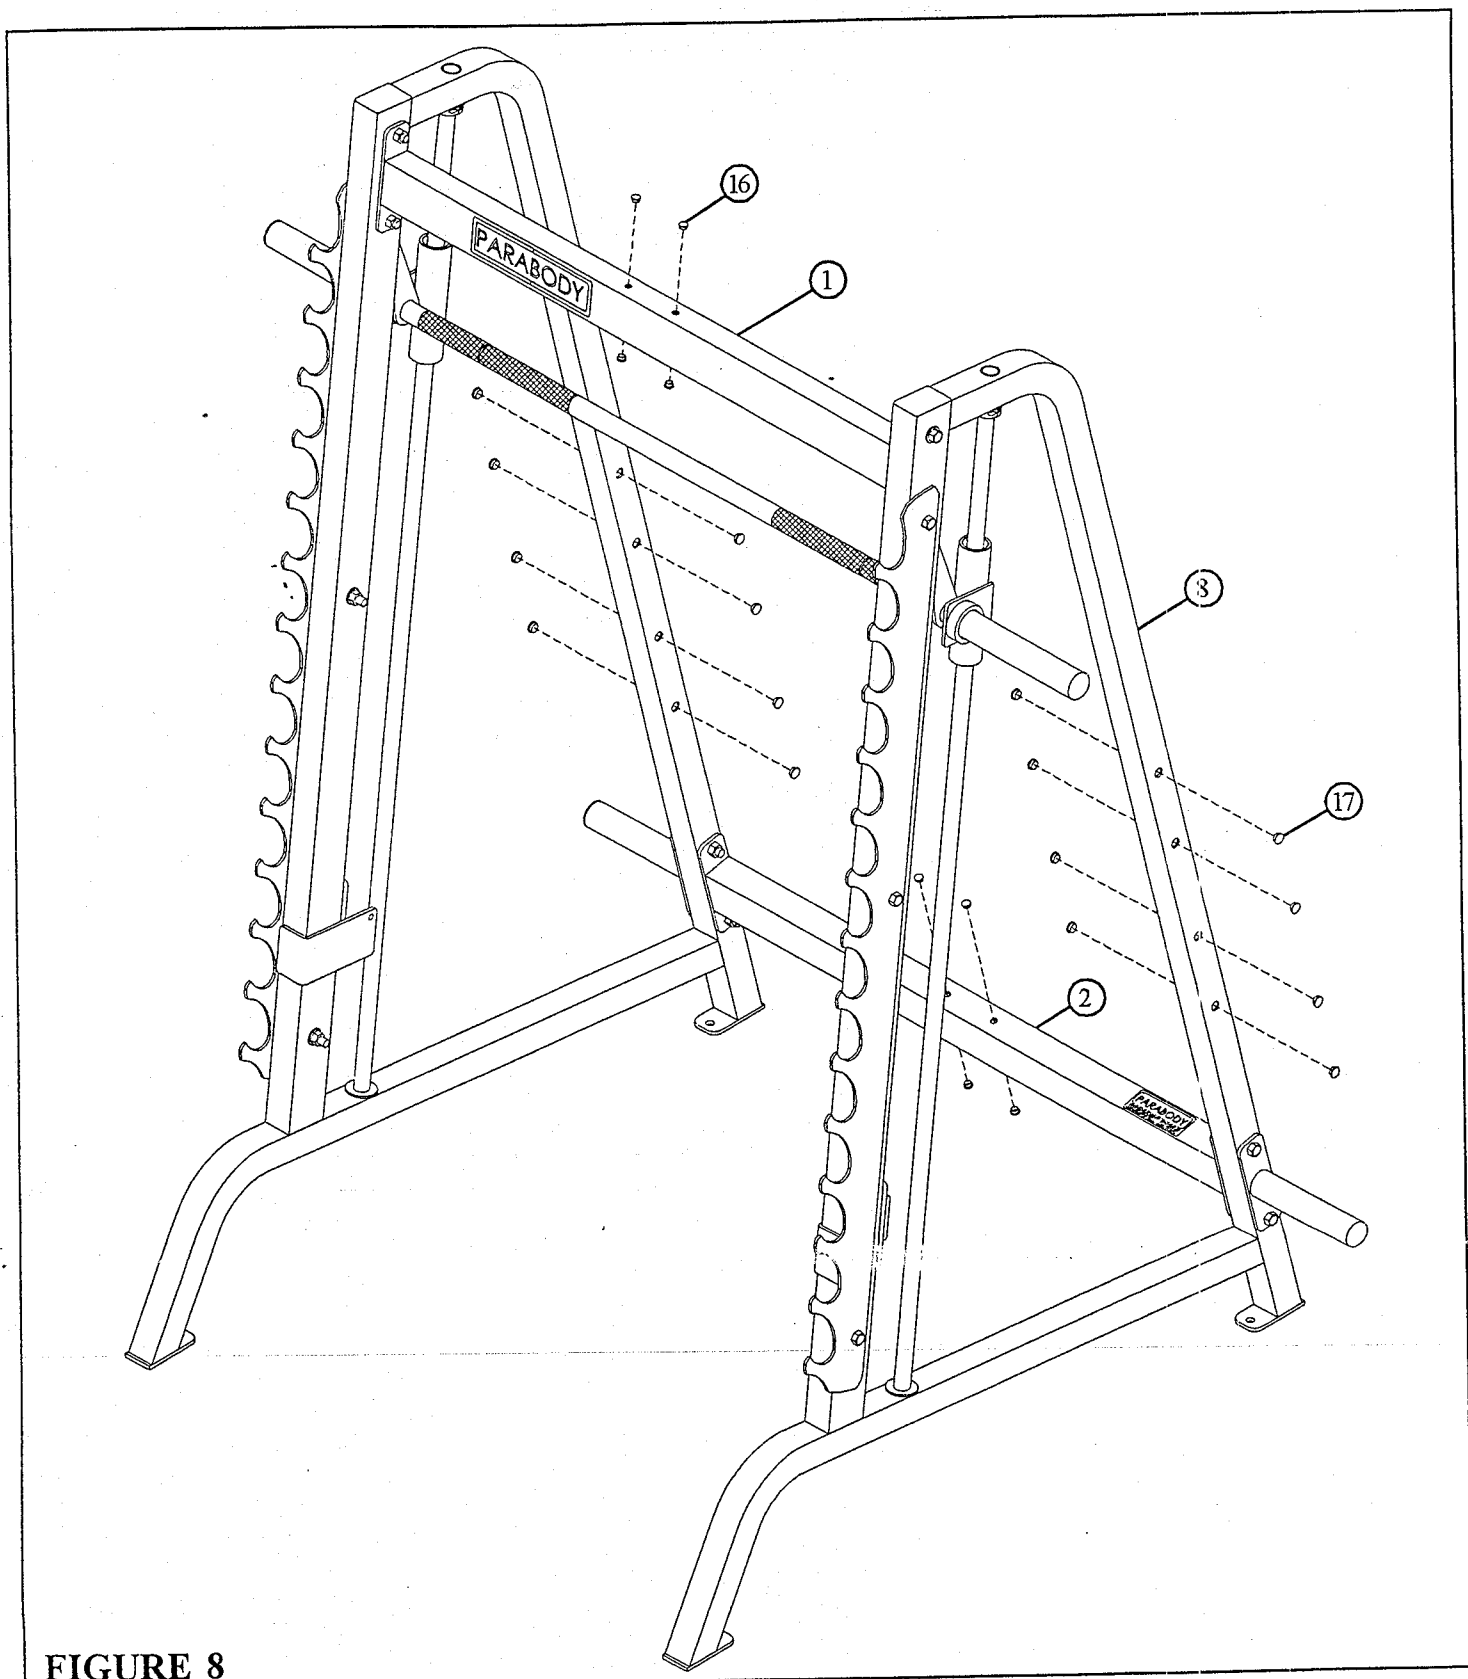

FIGURE 8
- Insert sixteen 9/16" CAP PLUGS (17) into the exposed holes in the UPRIGHT FRAMES (8) as shown in FIGURE 8.
- Insert eight 7/16" CAP PLUGS (16) into the exposed holes in the UPPER & LOWER CROSS BRACES (1 & 2) as shown in FIGURE 8.